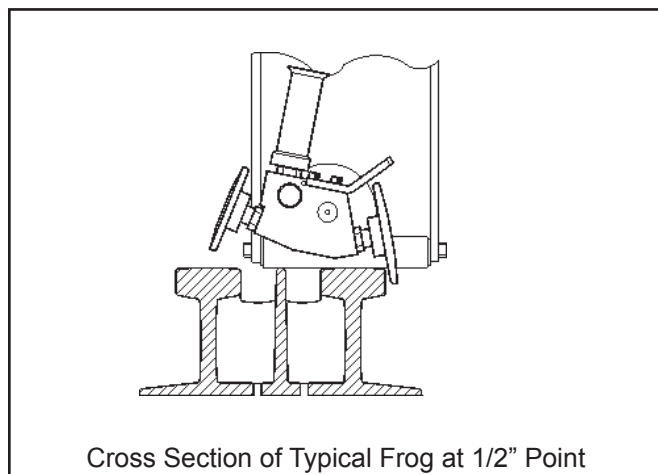

Figure 1. Grinding the Wings of a Frog
For grinding a wing of the frog, place the grinder on top of the wing with the rollers (91) resting on top of the wing to be ground. Adjust each wheel pivot (86) to the position shown in figure 1. Grinding is accomplished by moving the grinder back and forth in line with the rail. When finished with one wing, rotate the entire grinder 180 degrees and place it on the other wing.